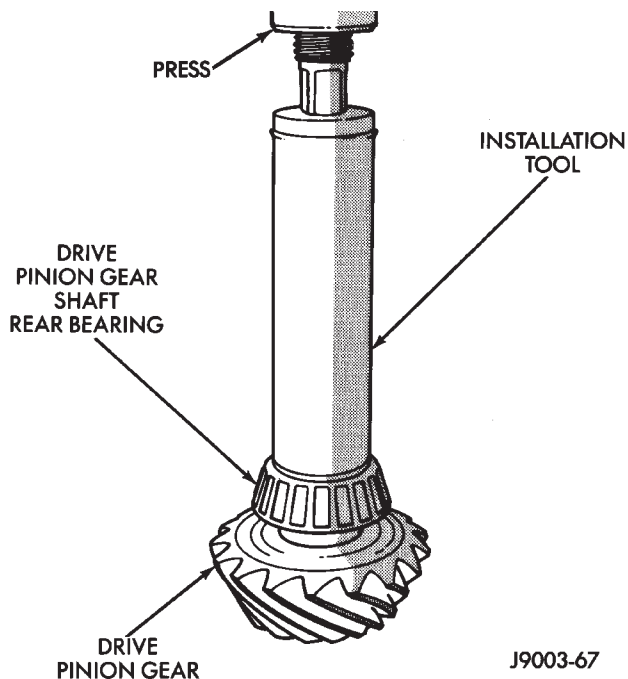

Fig. 33 Shaft Rear Bearing Installation
(8) Place the proper thickness depth shim on the pinion gear.
(9) Install the rear bearing and slinger, if equipped, on the pinion gear (Fig. 33) with Installer 6448.